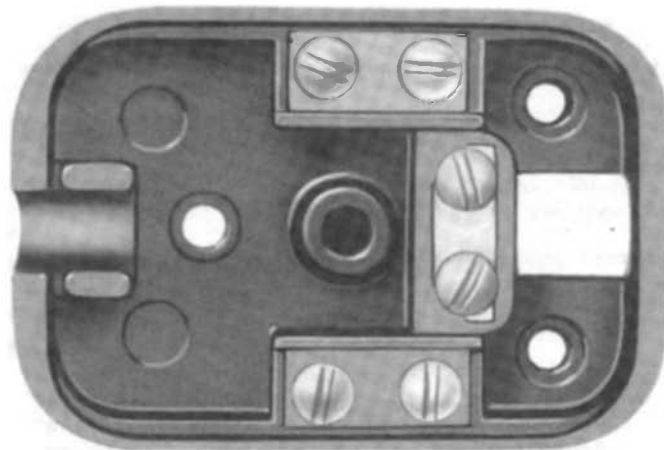
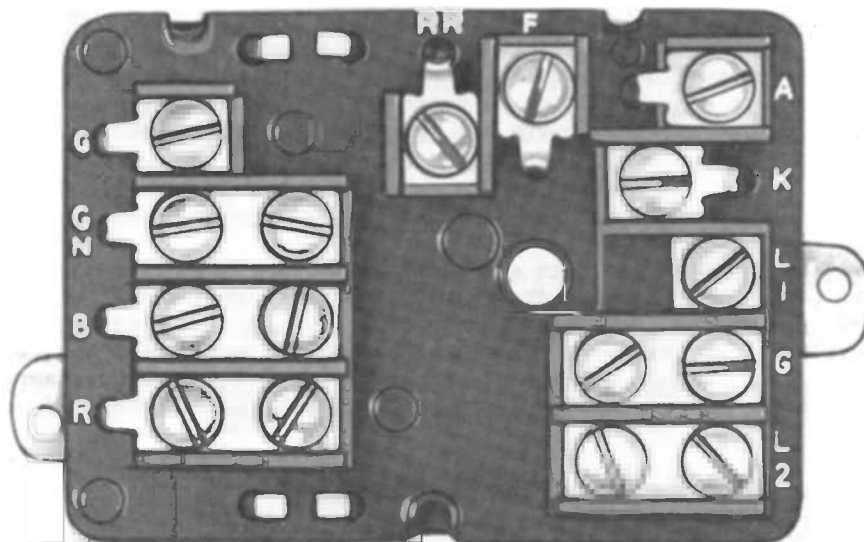

Fig. 2. Connector Block
Fig. 3. Network
The three conductors of the desk cord are color coded and connected to the network terminals (Fig. 3) as follows: GREEN to L1, RED to L2, and YELLOW to K. At the connector block GREEN and RED are connected to the outside terminals, and YELLOW to the center (strap) terminals (Fig. 2).
a. Connect the "LINE" (tip and ring) to the outside terminals (GREEN and RED desk cord leads) of connector block. (Fig. 2).